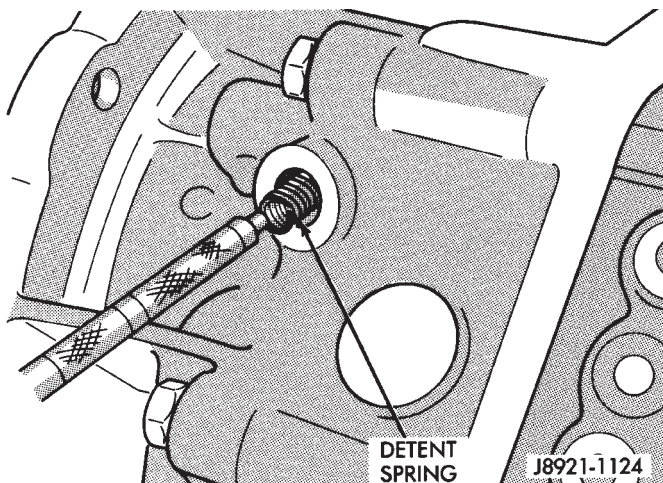

Fig. 48 Install Detent Spring
- (17) Install detent spring (Fig. 48).